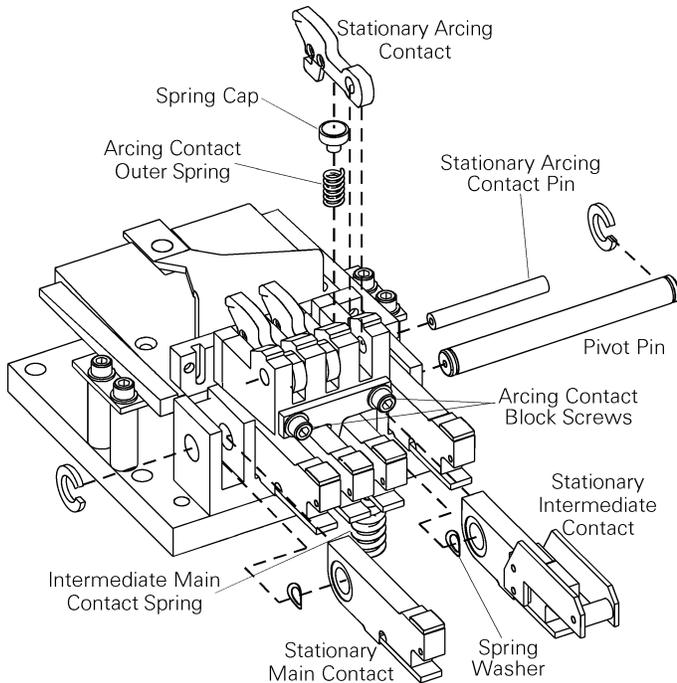

Figure 21. Replacing stationary contacts.
Use the following procedure to replace the stationary arcing contacts, as illustrated in Figure 21.
2. Lift off the stationary arcing contact arms. Remove the spring cap and two springs under each contact arm (there is also an inner spring not shown in Figure 21).
Use the following procedure to replace stationary intermediate and main contacts, as illustrated in Figure 20 and Figure 21.